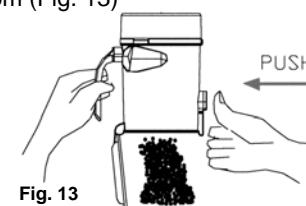

Fig. 13
3. To empty the dust cup container, hold the dust cup from the handle over a garbage container and press on the trap door release button that is on the front side of the dust cup container to release the dust cup bottom (Fig. 13)